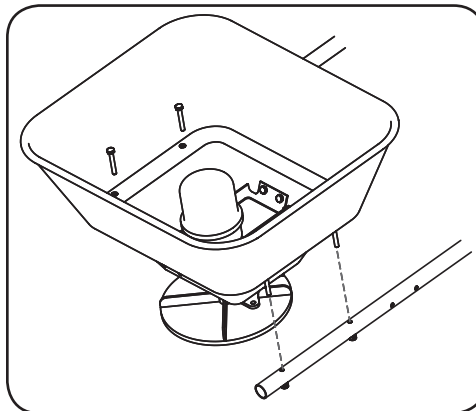

Figure 1-7
- Attach the hopper assembly to the round ends of the single frame tubes with four M6 x 40 bolts and locknuts. See Figure 1-7.